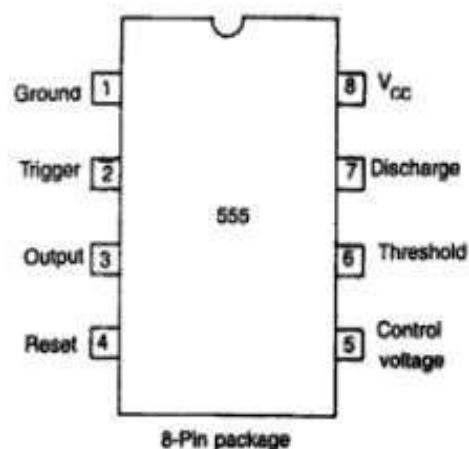
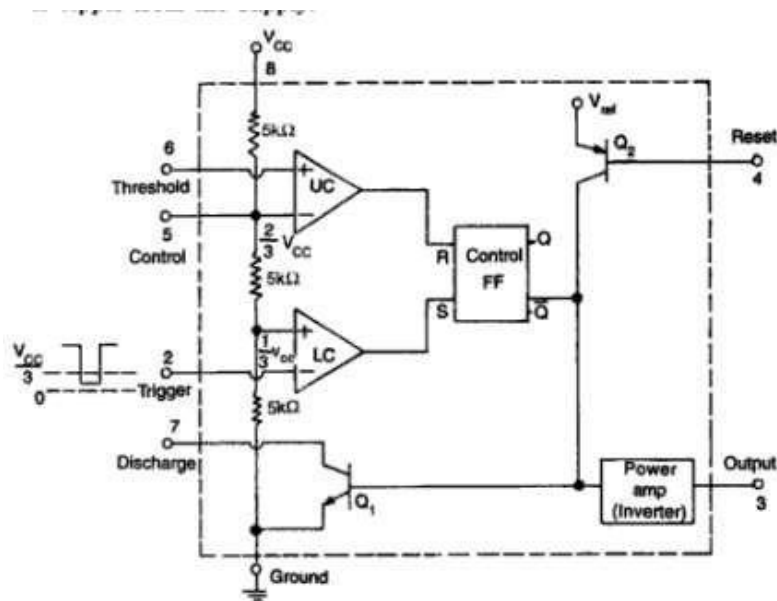

Fig. 8.1 Pin diagram
Fig. 8.2 Functional diagram of 555 timer
Figure 8.1 gives the pin diagram and Fig. 8.2 gives the functional diagram for 555 IC timer. Referring to Fig. 8.2, three $5\text{ k}\Omega$ internal resistors act as voltage divider, providing bias voltage of $(2/3)V_{cc}$ to the upper comparator (UC) and $(1/3)V_{cc}$ to the lower comparator (LC), where V_{cc} is the supply voltage. Since these two voltages fix the necessary comparator threshold voltage, they also aid in determining the timing interval. It is possible to vary time electronically too, by applying a modulation voltage to the control voltage input terminal (pin 5). In applications, where no such modulation is intended, it is recommended by manufacturers that a capacitor ($0.01\text{ }\mu\text{F}$) be connected between control voltage terminal (pin 5) and ground to by-pass noise or ripple from the supply.